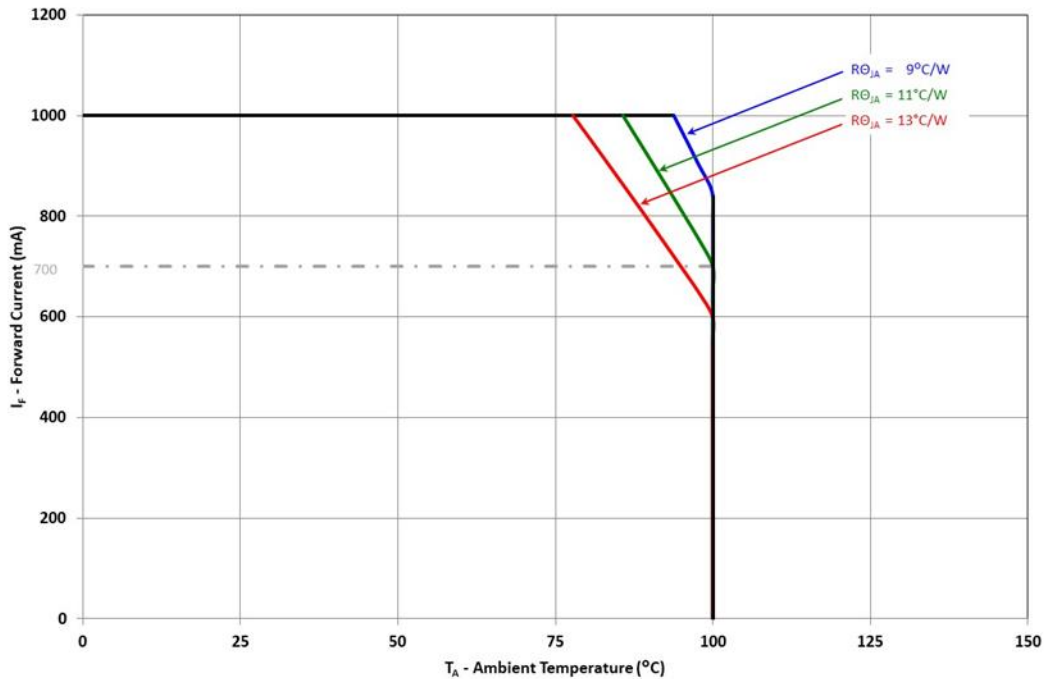

Figure 11: Maximum forward current vs. ambient temperature.
- Maximum DC forward current is determined by the overall thermal resistance and ambient temperature. Follow the curves in Figure 11 for *Current Derating*.
Notes for Figure 11: